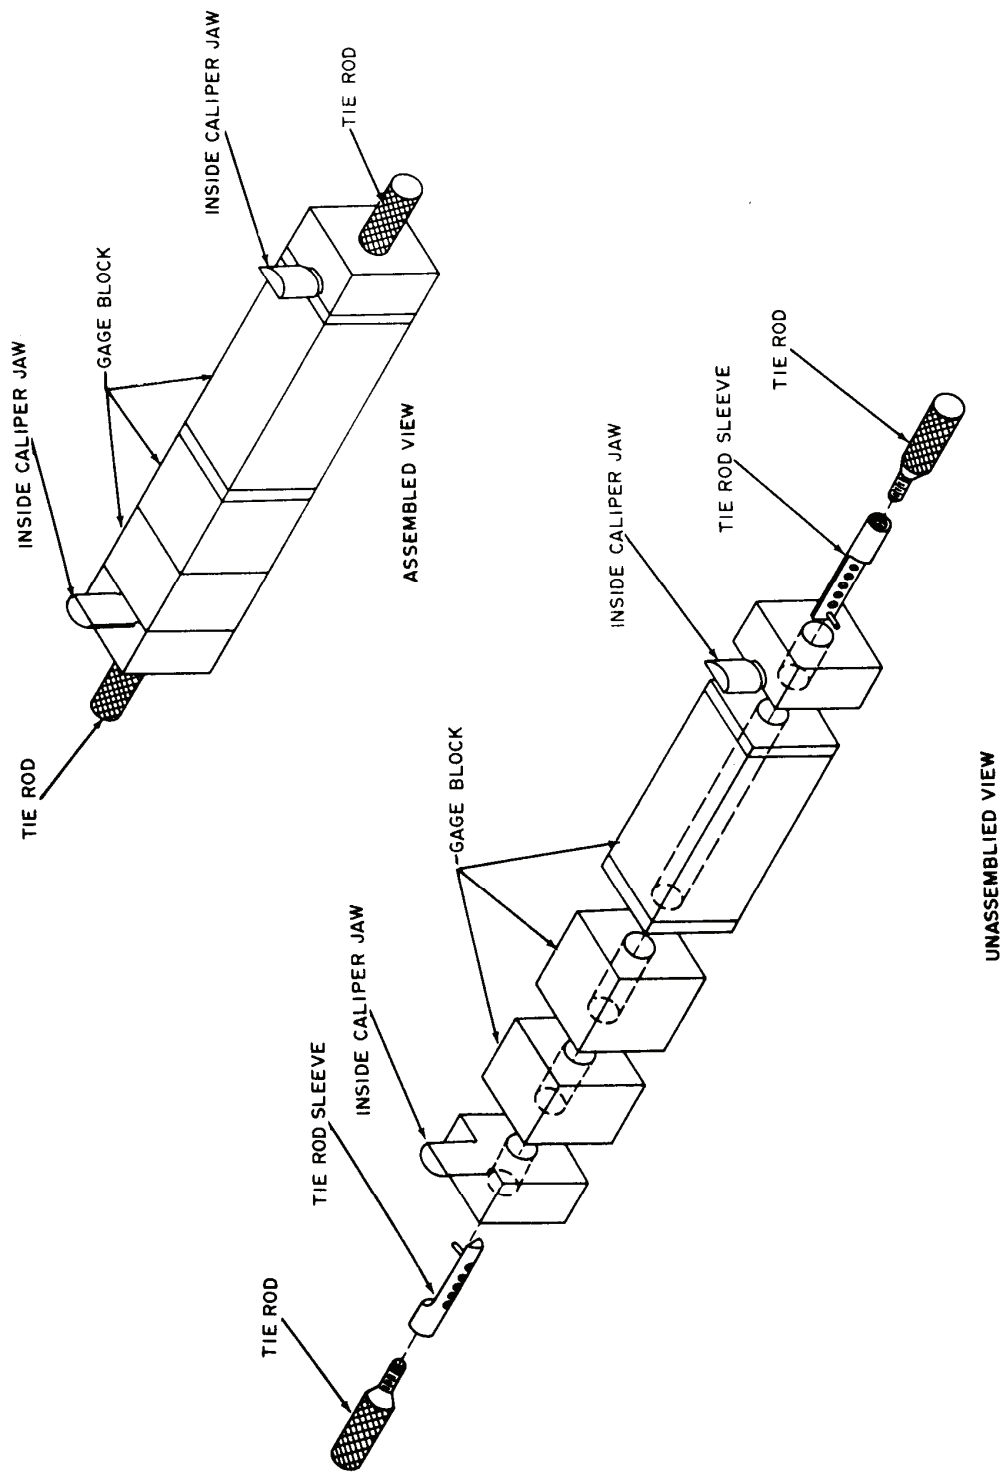

Figure 5. Gage block assembly.
(1) Select the appropriate gage blocks required to verify the range of the TI from gage block set.
(2) Assemble the gage blocks as shown in figure 5. Each stack of gage blocks must have an inside caliper jaw at each end of the gage blocks to serve as end stops for the TI. The gage blocks and end stops must be firmly wrung together and secured with the tie rods supplied with the gage block set.